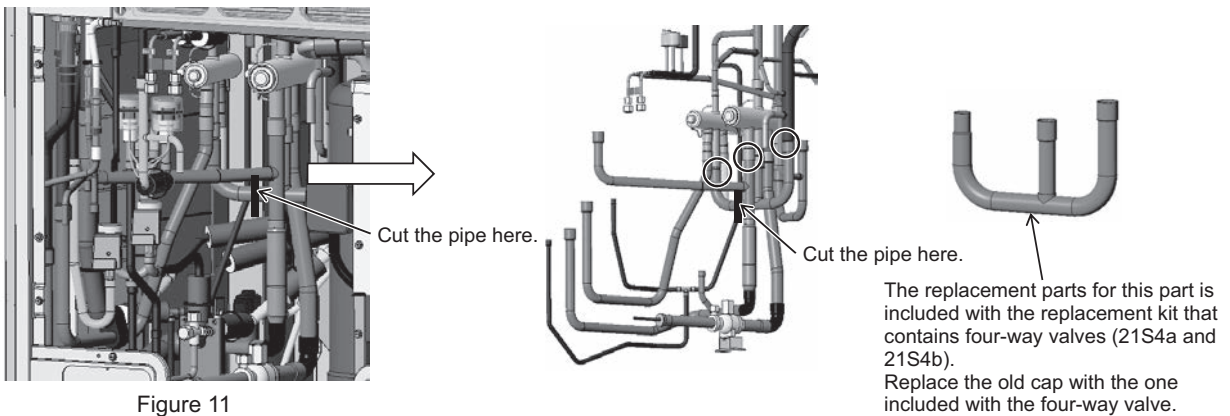

Figure 11
- (11A) Cut the pipe below four-way valve (21S4a) and in the middle with a pipe cutter as shown in the figure. After cutting the pipe where indicated in the figure, remove the braze at the three areas shown in Figure 11.